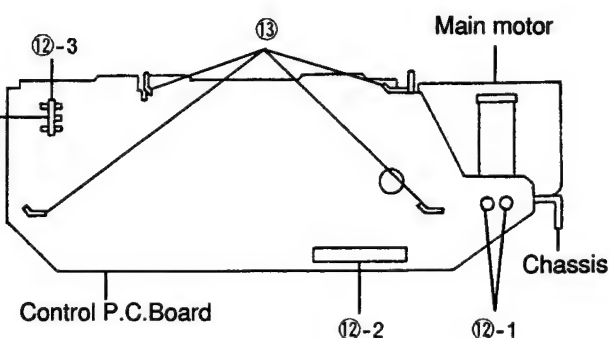

Figure 10
(1) After removing the belt, remove solder ⑫-1, and remove the wire flat (2P) from the control P.C.Board as shown in Figure 10.
② Since the wire flat is very easily damaged, handle it with care.
③ Fasten the two screws with a fastening torque of 2kg.cm.
(1) ベルトを外した後、半田⑫-1を外し、ワイヤーフラット (2P) をコントロール基板より外します。(図10参照)
- (1) Remove four solders ⑫ and remove the head P.C.Board and the two wire flat as shown in Figure 10.
- (2) Remove four claws ⑬ and remove the P.C.Board as shown in Figure 10.
- (3) After replacing the old P.C.Board with a new one, mount it following the removal steps in the reverse order.
- ② When using the soldering iron, set the temperature of the soldering iron to $320^{\circ} \pm 30^{\circ}\text{C}$ and the soldering time to less than 3 seconds, but solder point ⑫-3 to less than 1 second.
- ③ Take care that the solder is not loose, that there is no shortcircuit and that the coating is not damage.
- (1) 4ヶ所の半田⑫を外し、ヘッド基板と2本のワイヤーフラット (2P)、(10P) をそれぞれ外します。(図10参照)
- (2) 4ヶ所のツメ⑬を外し、コントロール基板を外します。(図10参照)
- (3) 良品のコントロール基板と交換後、取り外し方の逆の手順で基板を取り付けます。